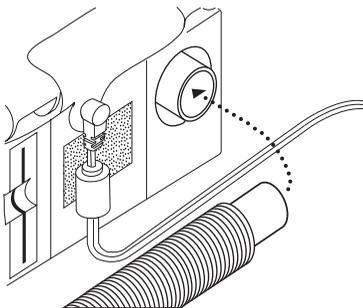

FIGURE 3–2 CONNECTING THE FLEXIBLE TUBING
1. Connect the flexible tubing to the air outlet on the back of the device, as shown in Figure 3–2.